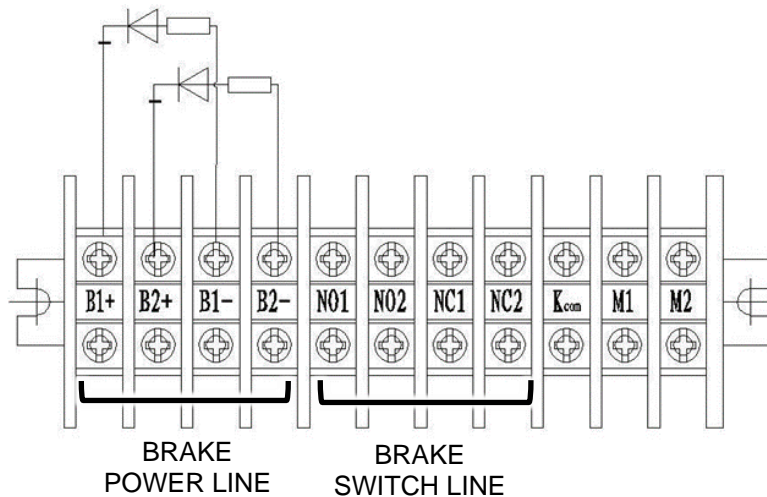

Figure 32
3. On the machine side disconnect the Brake and Brake Switch wires for the brake that is to be worked on Figure 32.